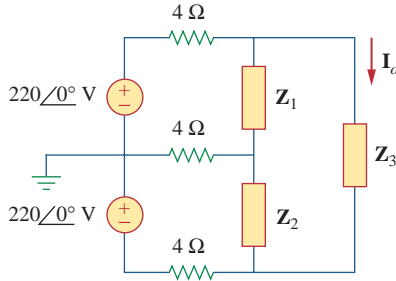

Figure 12.66
- 12.60** Use *PSpice* to determine I_o in the single-phase, three-wire circuit of Fig. 12.66. Let $Z_1 = 15 - j10 \Omega$, $Z_2 = 30 + j20 \Omega$, and $Z_3 = 12 + j5 \Omega$.